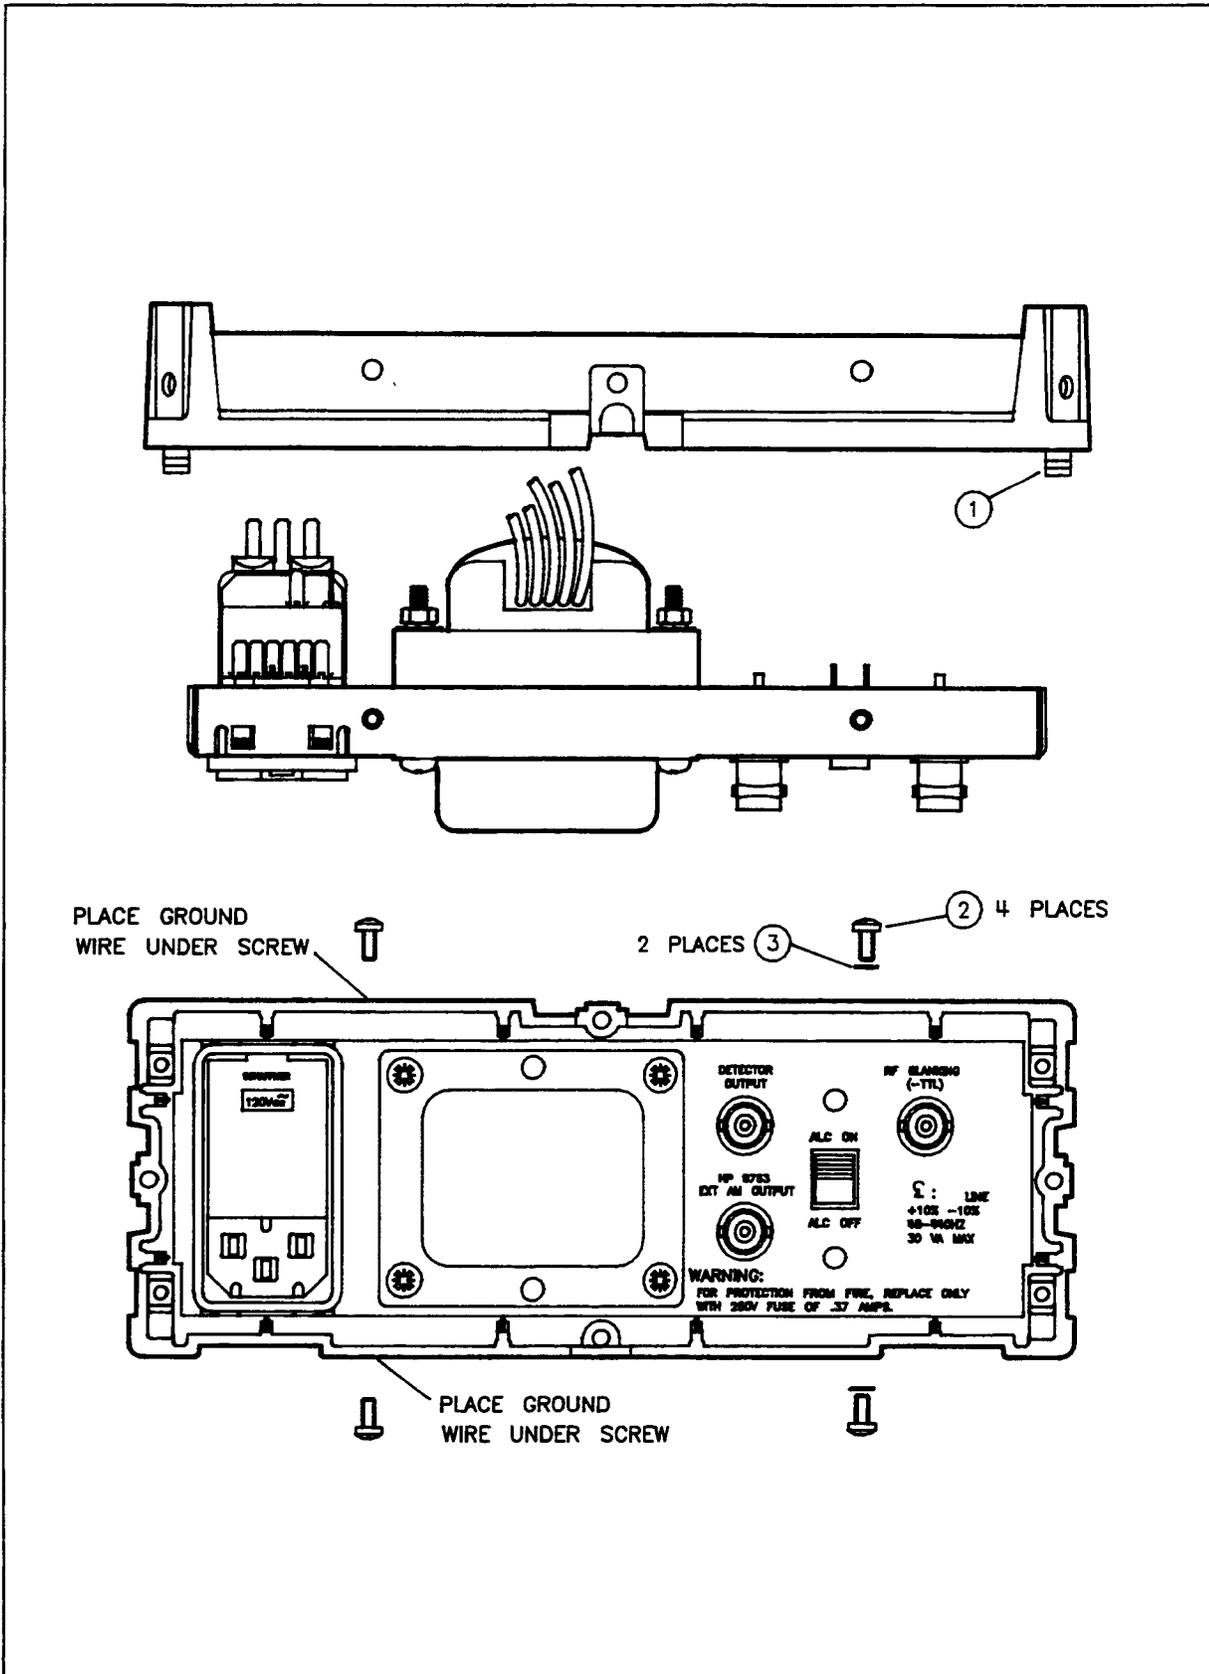

Figure 5-4. Rear Panel Attaching Hardware
3. Remove the four screws and two washers shown as items 2 and 3 in Figure 5-4.